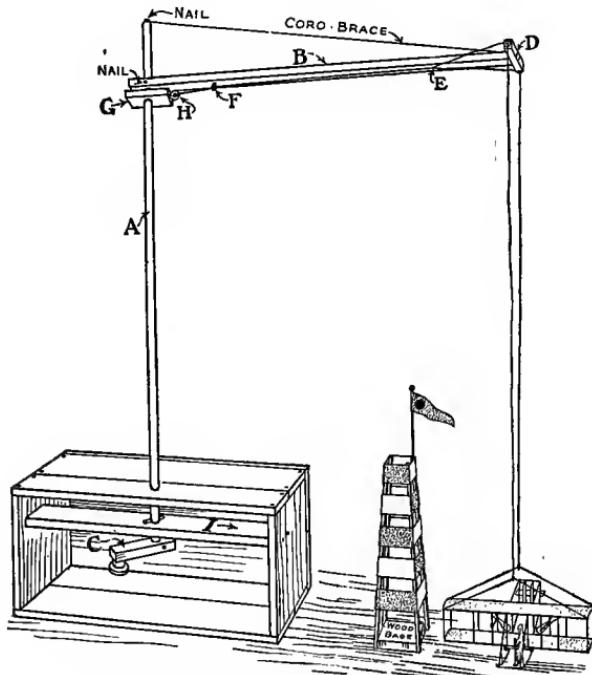

FIG. 312.—Detail of Toy Aeroplane.
ing from the floor or a table, our aeroplane rises several feet in the air, and flies around and around a center-pole from which it is suspended. Figure 312 shows more clearly how simple the operation of the toy is. The center-pole *A* runs down through the top of a grocery box used for the base, and has a crank *C* upon its lower end by which to turn it. The arm *B* has a hole bored through it near one end for the center-pole to stick through, and is nailed to the center-pole. Cross-piece *D* has a small screw-eye screwed into each end (Fig. 313), and is nailed at its center to the outer end of arm *B*. The suspension-cords of the aeroplane run through the screw-eyes in crosspiece *D*, and are joined at *E* (Fig. 312); then a single cord connected at *E* extends along arm *B* to a screw-eye at *F*, and runs through
curtain-pole 3 feet 6 inches long should be obtained for the *center-pole*, and a board 1 inch thick will be needed out of which to cut the *arm* and other pieces. Bore the hole for the *center-pole* through one side of the box, in the center of its length and near the top edge, and bore another hole of the same size through the center of a 3- or 4-inch strip, equal to the inside length of the box, for the crosspiece *I* (Fig. 312).
handle. Secure the crank to the center-pole with a nail, and bore a hole through the pole directly above crosspiece *I* for a wooden pin, the purpose of which will be to keep the pole from dropping below that point. Cut the *arm B* about 3 feet long and its crosspiece *D* 6 inches long (Fig. 313), and after nailing the crosspiece to the end of the arm, fasten the arm to the center-pole (Fig. 312). Cut block *G* 5 or 6 inches square, make a hole through its center large enough so it will slip around the center-pole freely, and screw a screw-eye into one edge to tie the aeroplane suspension-cord to.
**The Suspension-Cords** (Figs. 312 and 313) are attached to the aeroplane, run through the screw-eyes, and tied to block *G*.